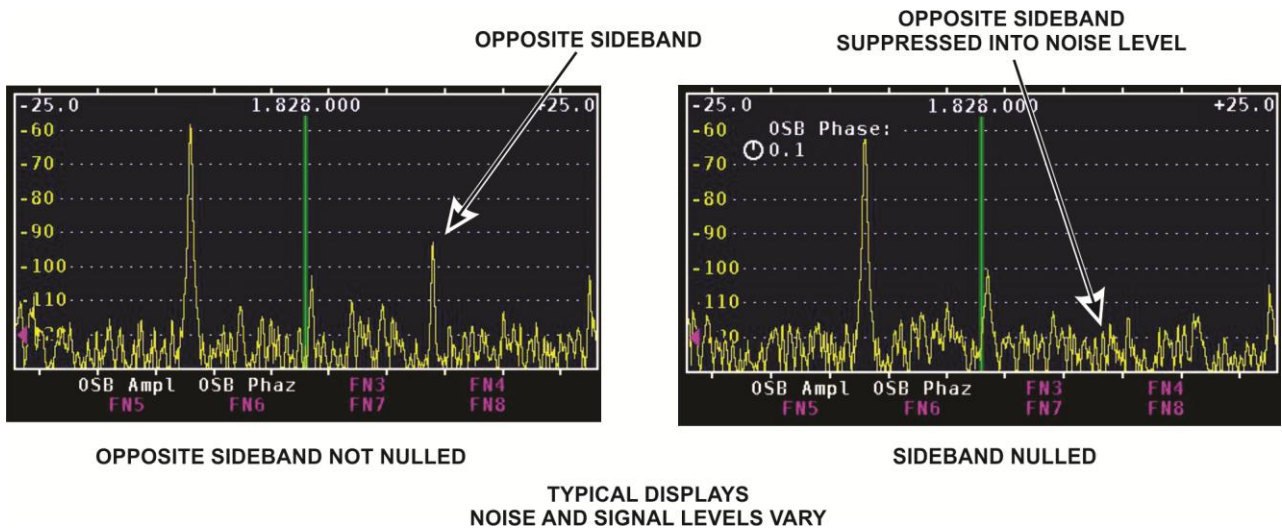

Figure 21. Typical Opposite Side Band Signal Displays.
- Switch your KX3 to 160 meters and tune to a frequency 10 kHz *above* that of the signal generator. That is, if your signal source is at 1.818 kHz, tune the KX3 to 1.828 kHz. You should see a strong signal to the left of the center cursor and, if the opposite sideband is not completely suppressed, you will see a weaker signal the same distance to the right of the center cursor (see Figure 21). The weaker signal to the right is the opposite sideband. If you are using the internal PX3 signal source, adjust the coupling to the KX3 antenna input as needed for an easily visible signal level.